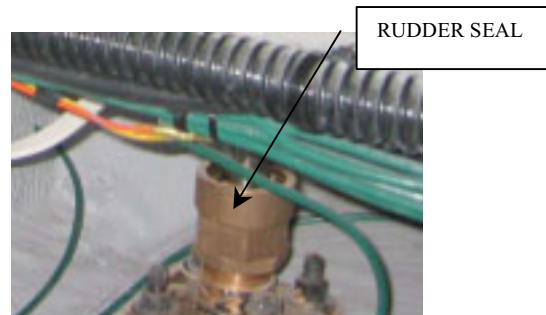

Figure 2- Rudder Seal
3. Remove the rudder arms from both rudders. Loosen the rudder seals, which are located under the rudder shelf, on the rudder shaft. (See Figure 2)